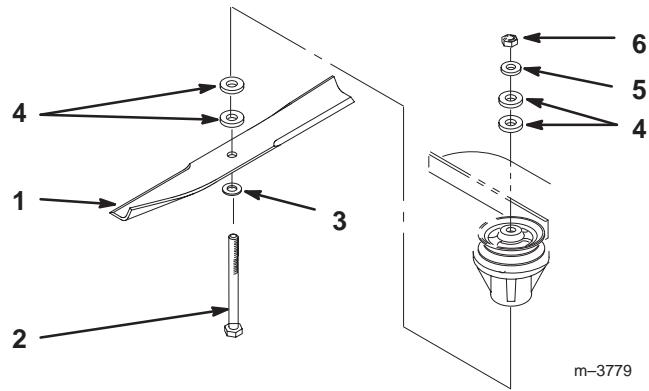

Figure 29
Hold the blade bolt with a wrench. Remove the nut, blade bolt, cone washer, blade, spacers and thin washer from the spindle (Fig. 29).
1. Place the blade onto the bolt, over cone washer. Select proper number of spacer(s) for height-of-cut and slide bolt into spindle (Fig. 29).
2. Install remaining spacer(s) and secure with thin washer and nut (Fig. 29).